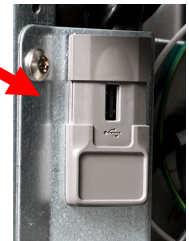

Figure 33
- Insert the USB drive from the previous step, with the compressed zip folder fqlink_config_aws.zip with fryer.conf file, into the USB port on the **FAR-LEFT** side of the fryer, just inside the left fryer door (see Figure 33).